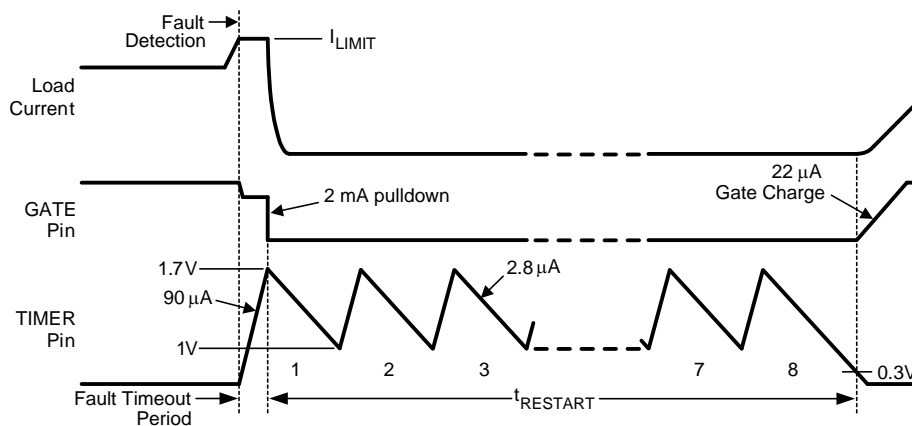

Figure 35. Restart Sequence
The LM25066 provides an automatic restart sequence which consists of the TIMER pin cycling between 1.7V and 1V seven times after the Fault Timeout Period, as shown in Figure 35. The period of each cycle is determined by the 90  $\mu\text{A}$  charging current, and the 2.8  $\mu\text{A}$  discharge current, and the value of the capacitor  $C_T$ . When the TIMER pin reaches 0.3V during the eighth high-to-low ramp, the 22  $\mu\text{A}$  current source at the GATE pin turns on  $Q_1$ . If the fault condition is still present, the Fault Timeout Period and the restart sequence repeat. The  $\overline{\text{RETRY}}$  pin allows selecting no retries or infinite retries. Finer control of the retry behavior can be achieved through the  $\text{DEVICE\_SETUP}$  (D9h) register. Retry counts of 0, 1, 2, 4, 8, 16 or infinite may be selected by setting the appropriate bits in the  $\text{DEVICE\_SETUP}$  (D9h) register.
**C) Restart Timing** - For the LM25066, after the Fault Timeout Period described above,  $C_T$  is discharged by the 2.8  $\mu A$  current sink to 1V. The TIMER pin then cycles through seven additional charge/discharge cycles between 1V and 1.7V as shown in Figure 35. The restart time ends when the TIMER pin voltage reaches 0.3V during the final high-to-low ramp. The restart time, after the Fault Timeout Period, is equal to: